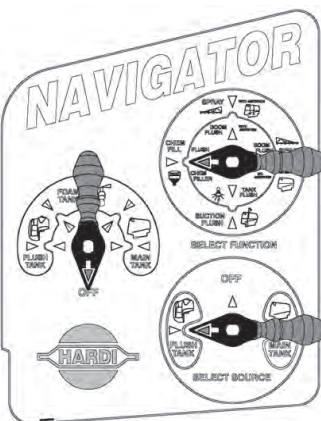

Fig 41
- After adding chemicals, flush the GRANNI POT with clean water (SOURCE handle to FLUSH TANK, Fig 41).